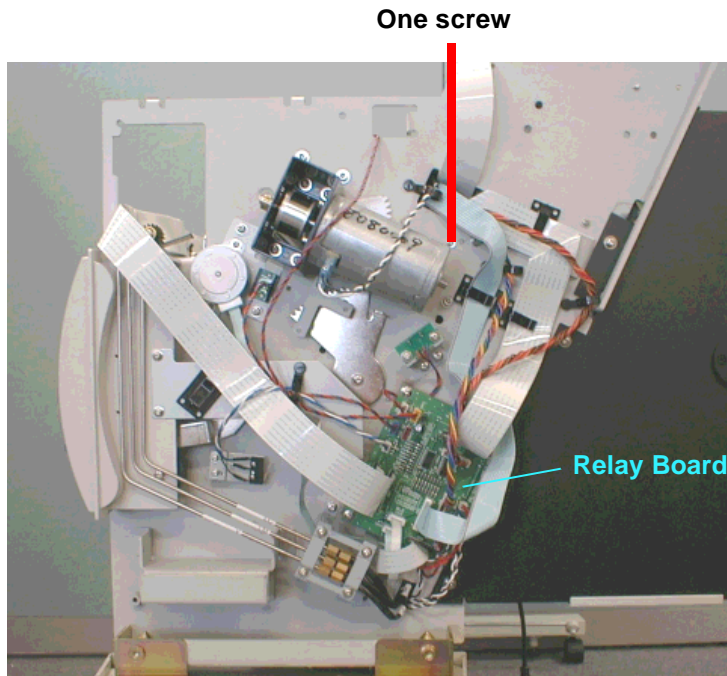

Figure 4-21. Maintenance Assembly Removal - 2
1. Disconnect CN9 and CN19 from the relay board on the right side of the printer. See Figure 4-21.